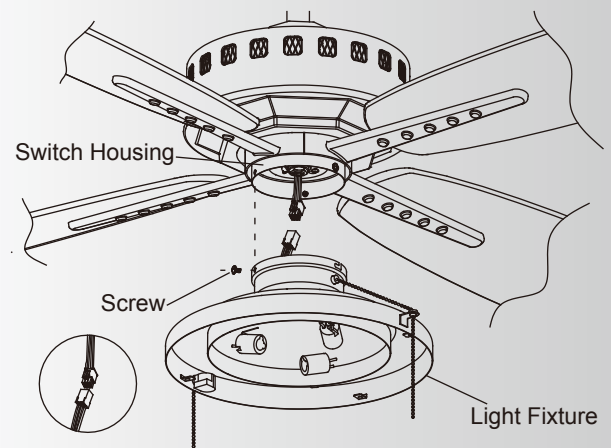

Fig. 23
Step 4. Remove 1 of the 3 screws on the edge of switch housing and loosen the other 2 screws (do not remove). The Square plastic wiring connector from the motor body and switch cover will only fit together one way. Match up the color on the side of each connector, then push them together until the snap engages. Tuck the new connections neatly into the switch cover. Align the key holes on the switch cover with the 2 screws on the edge of the switch housing. Turn switch cover until it locks in place at the narrow end of the key holes. Tighten the 2 screws and reinstall the third screw, making sure all three screws are tight and secure. (Fig. 23)